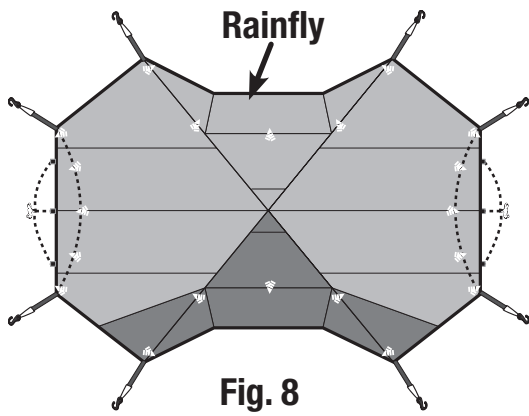

Fig. 8
- Drape rainfly over tent. (Fig. 8 and 9)